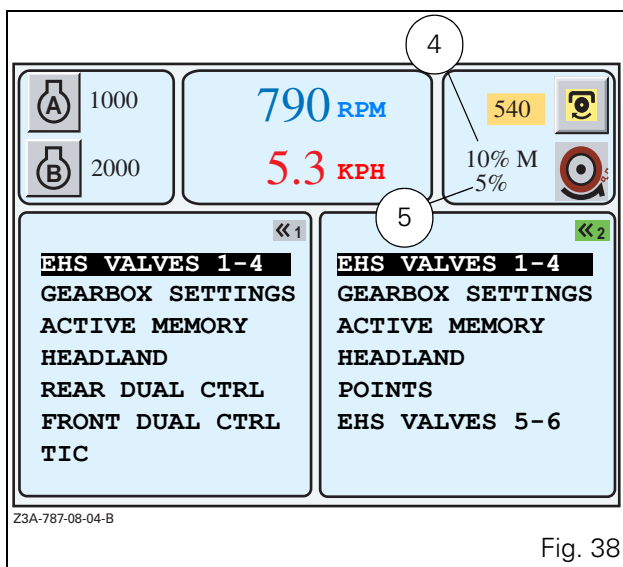

Fig. 38
This application is used to display various parameters stored for tractor use. A certain number of parameters are fixed (Fig. 38, upper part of the screen) while others can be selected by the user (right- and left-hand windows on screen).
- Rotate the encoder (1) to the **WORK** application and press the encoder once the active function is highlighted by red text and a red rectangle around the icon (on b/w screens the elements are highlighted in reverse video). Or press the key «₁» (2). The window (Fig. 38) is displayed.
- To exit an application, press the **ESC** key (3).
7.9.2 - Description (Fig. 38)